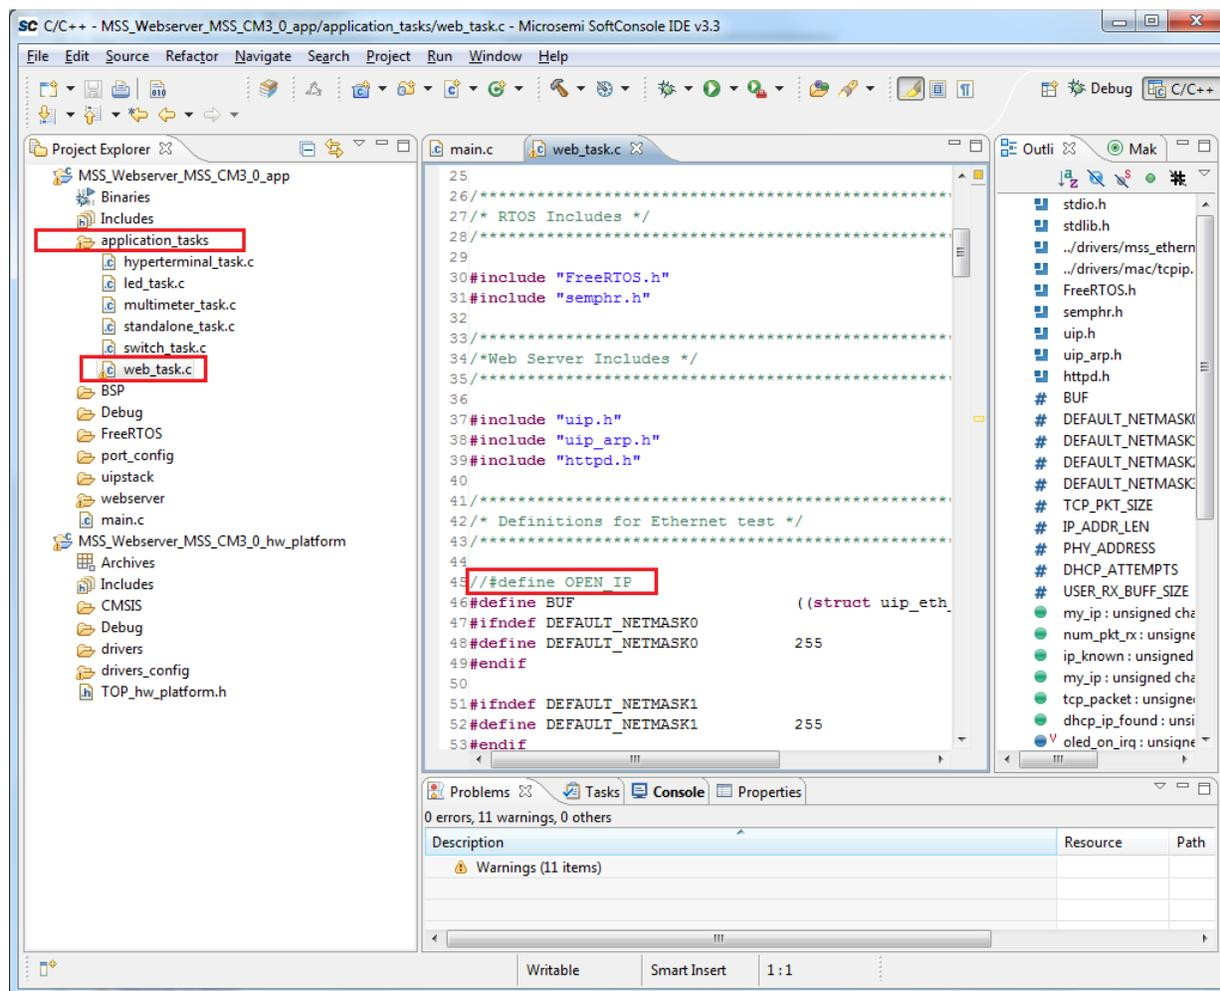

Figure 2 • Changes To Be Made for Webserver Demo with Static IP
2. Comment the line: "#define OPEN_IP" in the web_task.c file under the application_tasks folder, as shown in Figure 2.